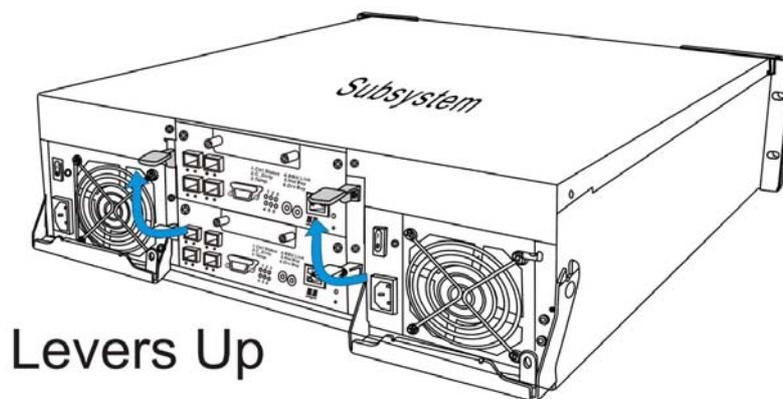

**Figure 5-3: Installing the Controller Module**
- Step 2.** **Install the replacement controller.** Make sure the ejection levers are at its lowest position. Align the controller module with the controller module bay. Gently slide the controller module in. (See *Figure 5-3*)